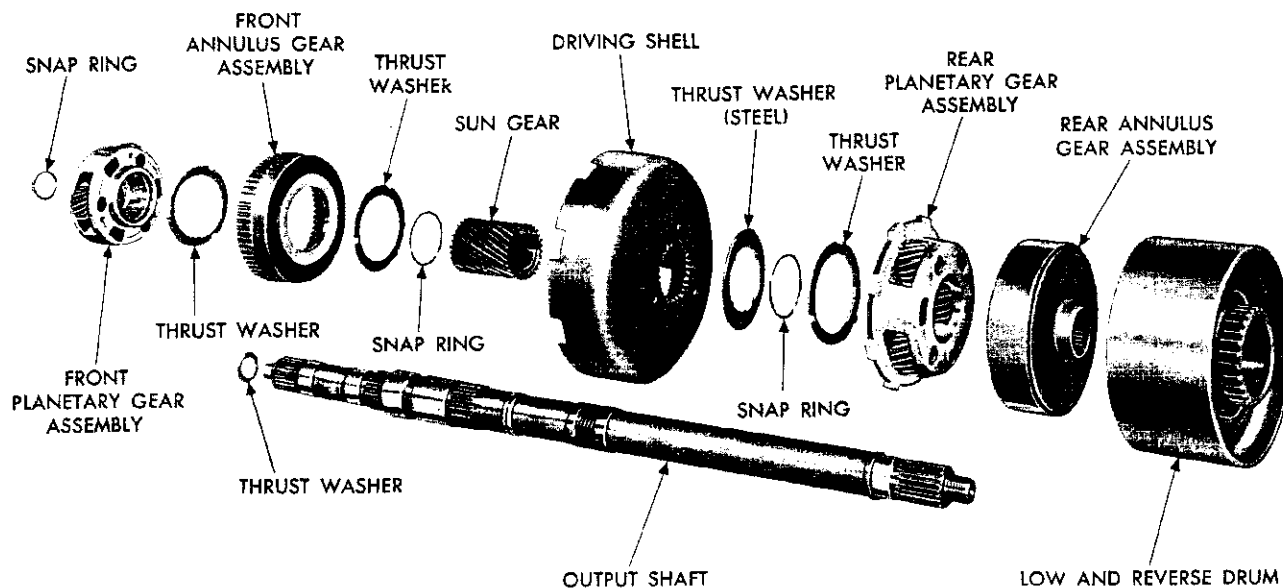

Fig. 72—Planetary Gear Assemblies, Sun Gear, Driving Shell, Low and Reverse Drum Output Shaft (Disassembled)
(1) Remove the thrust washer from the forward end of the output shaft (Fig. 72).
(2) Remove the snap ring from the forward end of the output shaft, then slide the front planetary
(3) Slide the front annulus gear off the planetary gear set (Fig. 72). Remove the thrust washer from the rear side of planetary gear set.
(4) Slide the sun gear, driving shell, and the rear planetary assembly off the output shaft.
(5) Lift the sun gear and driving shell off the rear planetary gear assembly and remove the thrust washer from inside the driving shell. Remove the snap ring and steel washer from the sun gear (rear side of driving shell) and slide sun gear out of the shell. Remove the front snap ring from the sun gear if necessary. Note that the front end of the sun gear is longer than the rear.
(6) Remove the thrust washer from the forward side of the rear planetary gear assembly, remove the planetary gear set from the rear annulus gear.
Refer to Figure 72 for parts reference.
(2) Apply a coat of grease on the input to output shaft thrust washer (Fig. 72), and install the washer on the front end of the output shaft.